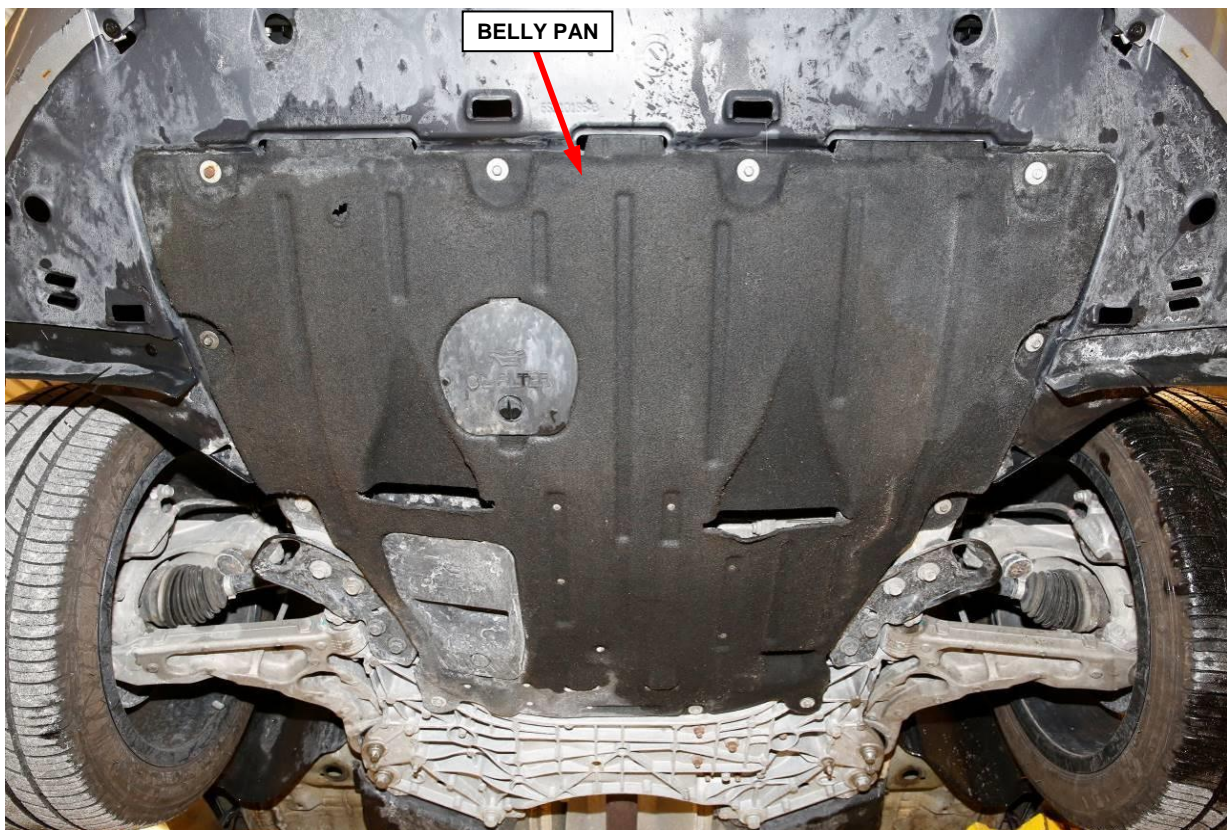

Figure 1 – Engine Belly Pan
3. If equipped, remove and **SAVE** the fasteners securing the engine belly pan (Figure 1).
4. If equipped, remove and **SAVE** the engine belly pan (Figure 1).